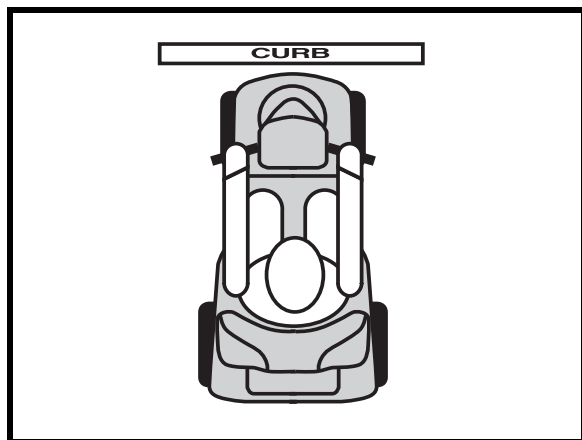

Figure 3. Correct Curb Approach
**WARNING!** Be sure your PMV is traveling perpendicular to any curb you may be required to ascend or descend. See figures 3 and 4.